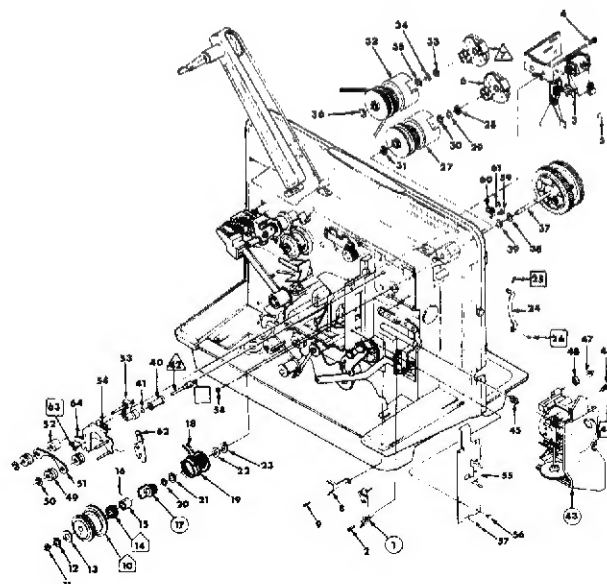

Figure 2
The feed and rewind system consists of three clutches: the Feed Sprocket Clutch (37), the Rewind Clutch (27) and the Fast Forward Clutch (32) (on models having that feature). (Figure 2).